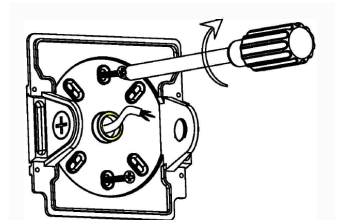

Fig. 4
5. Affix the bottom plate on the round plate (fig. 4)